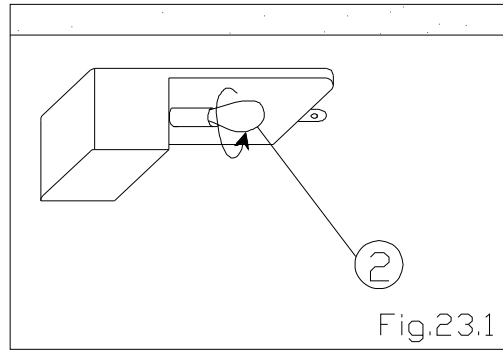

Fig.23.1
- b. Remove the bulb according to the direction arrowhead show, replace the bulb(Fig.23.1)